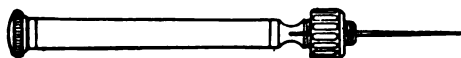

FIG. 125.—CASE AND HOLDER FOR NEEDLES.
Include in this group (8) the *key-driver*, some (9) *tool-steel*, a pencil-case, full of (10) *fine needles*, to clean out carbureter needle-valve and spray-holes. A very useful combination of case and holder for these is shown in Fig. 125.